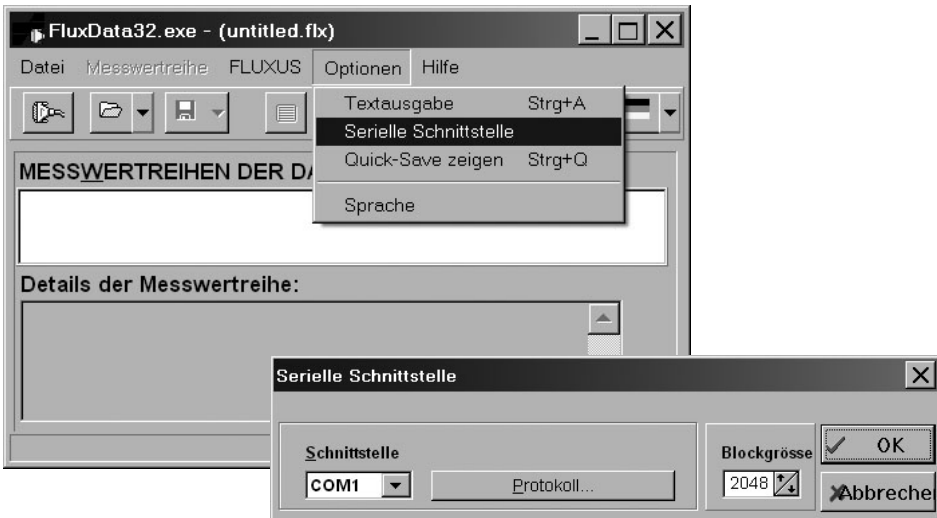

Fig. 9.1: Selection of the serial interface
- Select the serial connection of the PC connected with the flowmeter (e.g. COM1 in Fig. 9.1).